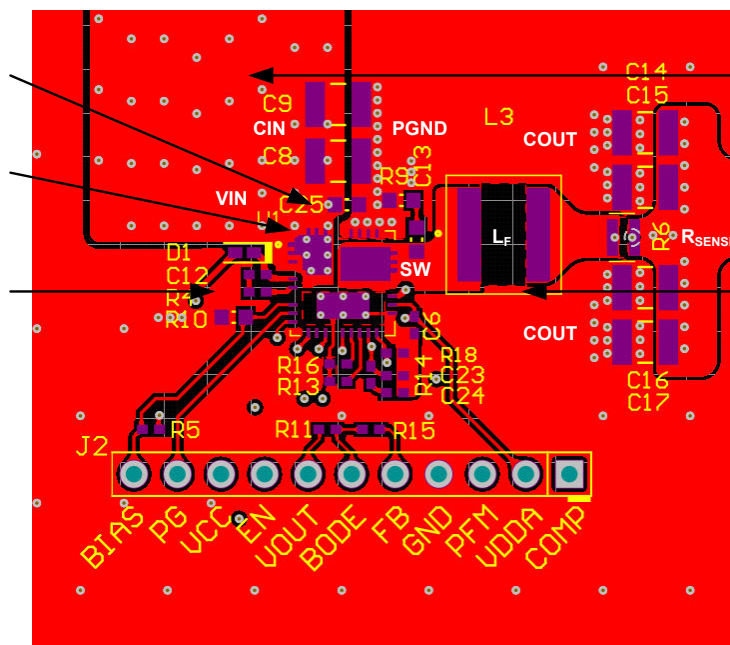

图 8-29. PCB Top Layer - High Density, Single-sided Design
The following list summarizes the essential guidelines for PCB layout and component placement to optimize DC/DC converter performance, including thermals and EMI signature. 图 8-29 shows a recommended layout of the LM70880-Q1 with optimized placement and routing of the power-stage and small-signal components.
- Use low-ESR ceramic capacitors with X7R or X7S dielectric from VIN to PGND. Place an 0402 capacitor close to VIN for high-frequency bypass as shown in 图 8-29. Use additional 1206 or 1210 capacitors for bulk capacitance.